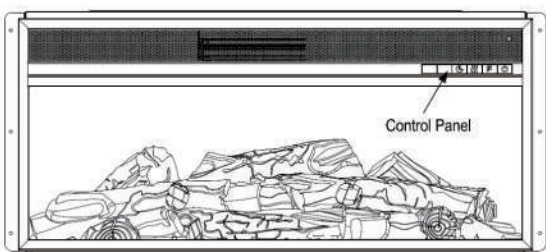

Fig.2
- 1.Using the control panel, located on the upper right-hand of the fireplace(Fig.2).